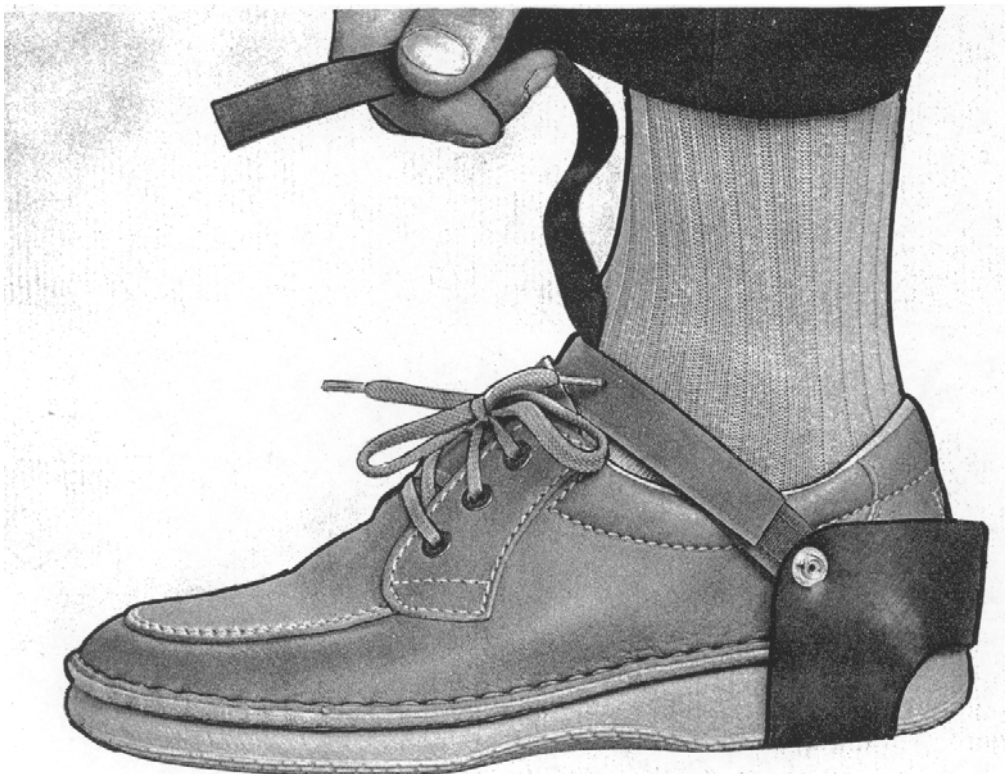

FIGURE 6. ESD protective worksite items.
5.8 Typical ESD-controlled workstation. Figure 5 shows a typical ESD-controlled workstation (the heat-sealing equipment is not shown). Indicated on the figure are key ESD-control components that comprise a workstation. Figure 6 depicts several close-up examples of these components.